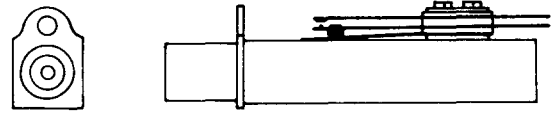

Fig. 11—480-Type Jack
**2.06 480B, C, D, and E:** These coaxial-type jacks (Fig. 11) are used with the 337-type plugs. The ac test voltage is 500 volts.